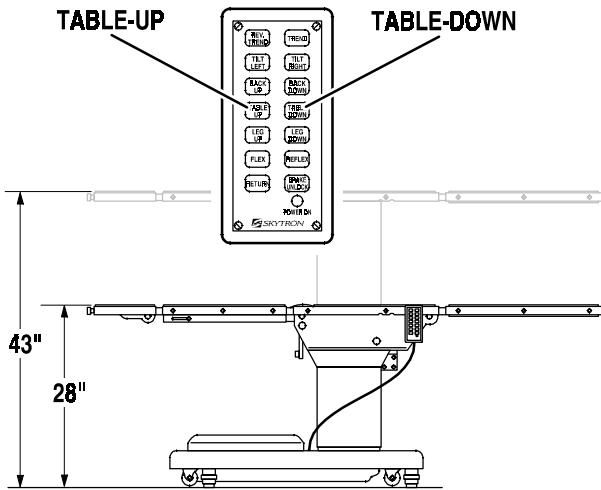

Figure 3-8. Elevation Function
**f. Elevation.** To raise table top, press the TABLE UP button (figure 3-8). The table will lift a patient weight of 500 pounds up to a maximum height of 43". To lower the table top, press the TABLE DOWN button. The table top will go down to a minimum height of 28".